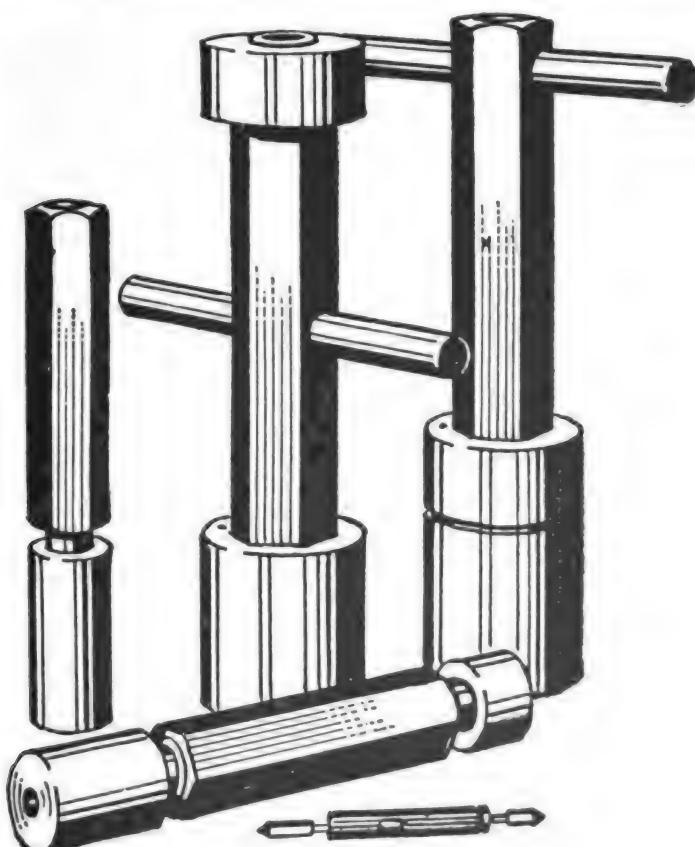

Figure 105.—Plug gages.
**PLUG GAGES** consist of accurately ground, hardened steel gages for the measurement of inside diameters. The usual type of plug gage is called the "Go-NoGo" gage. One end of the gage is ground to the minimum diameter allowed in the hole. The other end is ground to the maximum allowed diameter. Try to insert both ends of the gage into the hole you are measuring. The "Go" end should enter the hole, the "No Go" end should not enter. Look at the illustration of this type in figure 105.